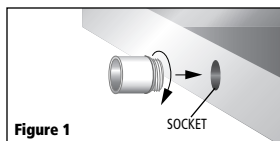

Figure 1
1. Screw adaptor into overflow outlet on drain pan (**Figure 1**).